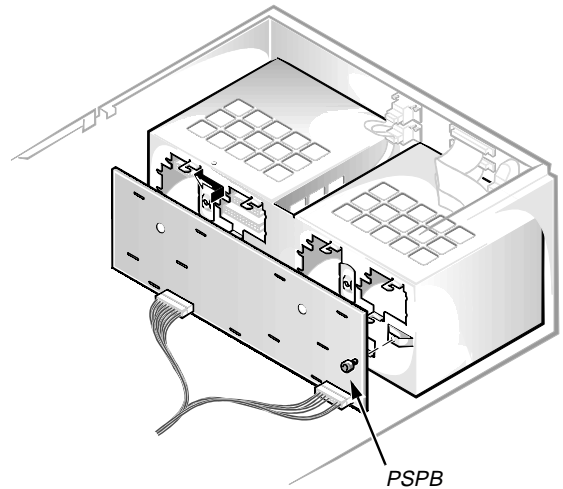

Figure B-14. Installing the Power-Supply Paralleling Board
8. **Install the PSPB (see Figure B-14).**